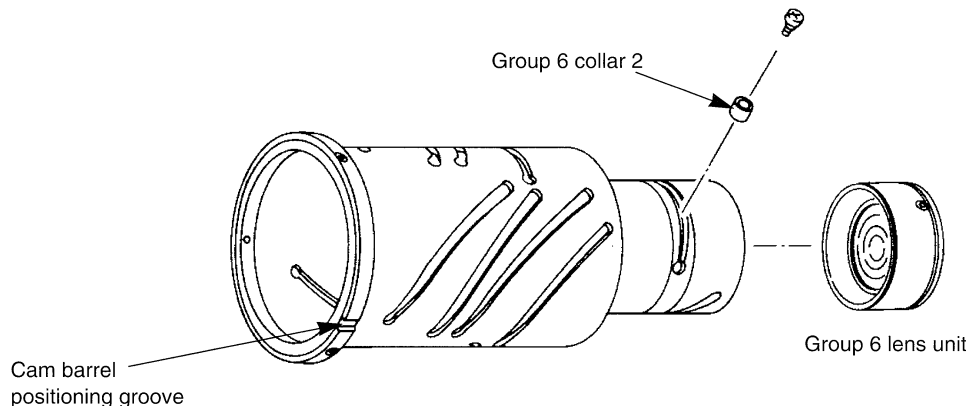

Fig. 3-16 Group 6 Lens Unit Installation
- Install group 6 collar 2 at the place shown in Fig. 3-16.